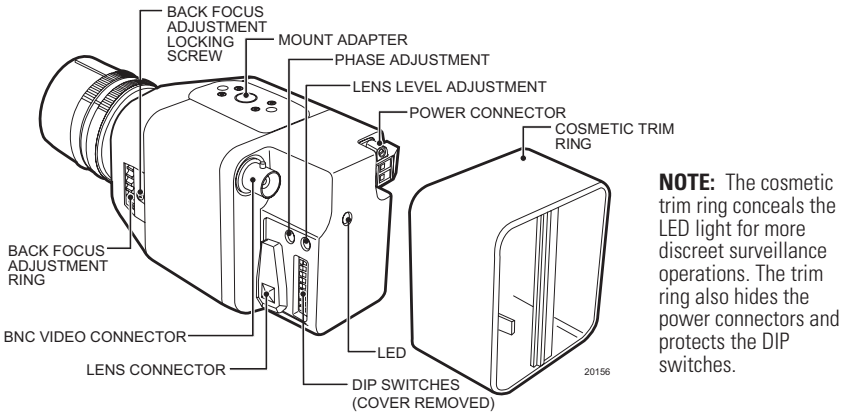

Figure 1. Camera Layout
2. Remove the cosmetic trim ring from the back of the camera (refer to Figure 1). Set the lens mode selector switch on the side of the camera to AIV (auto iris video drive lens) or AID (auto iris DC drive lens). Refer to the *Switch Settings* section. Switch setting is determined by the type of lens used.
The camera is designed to operate from a 12 VDC or 24 VAC power supply. The power supply connections are shown in Figure 1. The LED on the back panel of the camera indicates that power is connected. Use only a Class 2 isolated power supply. See *Specifications* for power consumption.
1. Remove the cosmetic trim ring from the camera (refer to Figure 1). Thread cabling through the rear cover.
Set the lens mode selector switch to AID. Switch the ESC ON. Use an appropriate screwdriver to turn the lens level potentiometer (refer to Figure 1) fully clockwise. Next, slowly adjust the potentiometer counterclockwise until the optimum picture is obtained (video output level of 1V peak-to-peak).